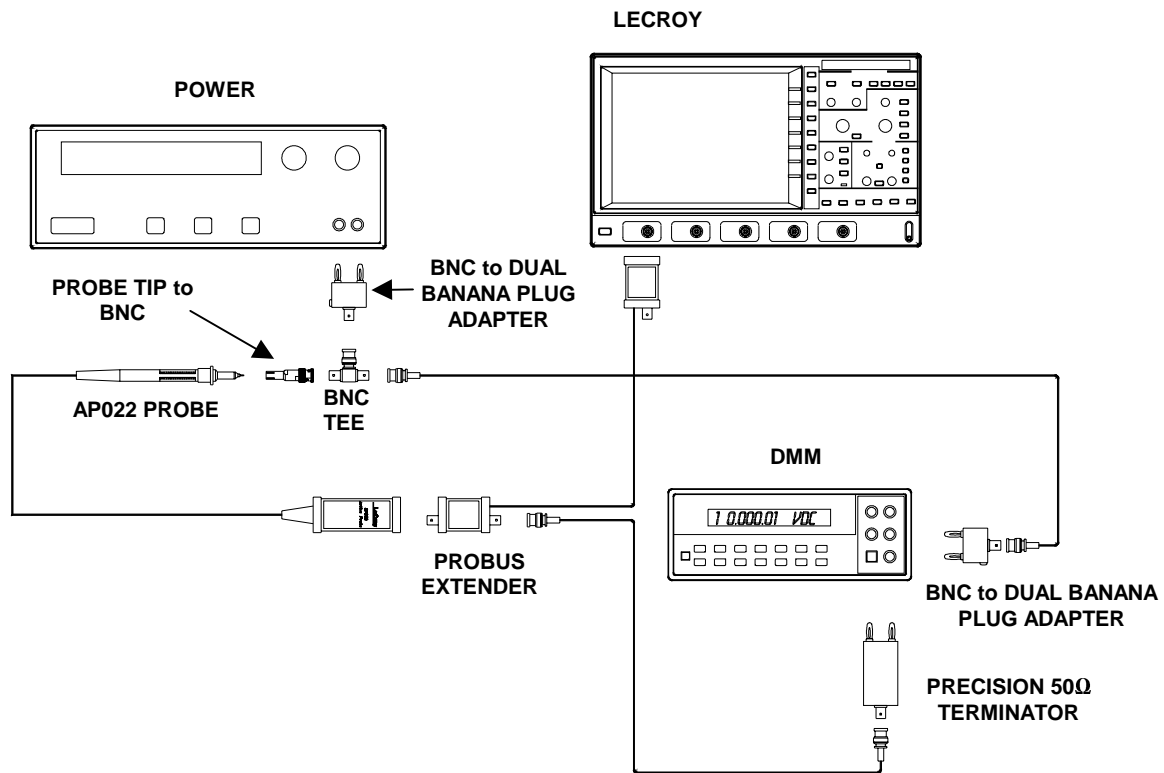

Figure 9. Test Setup for Verifying Offset Accuracy
1. Connect the Probe Tip adapter to a BNC tee adapter and a BNC-to-dual banana plug adapter, as shown in Figure 9.
5. Attach a BNC cable to the unused port of the BNC tee. Attach a dual banana plug adapter to the other end of the cable and plug it into the DMM input, as shown in Figure 9. Make sure that the side of the banana plug corresponding to the BNC shield (marked "GROUND") is connected to the LOW or COMMON input of the DMM.